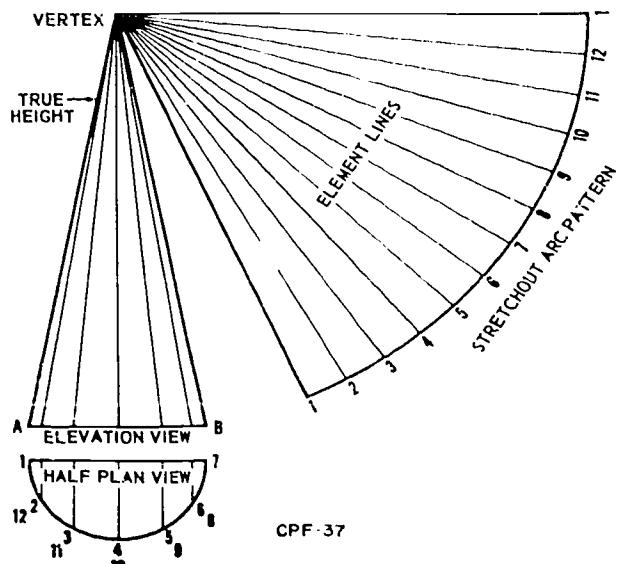

Figure 1-71. Radial line development for a cone.
**Radial Line Layout Method.** The radial line method of layout is used to develop patterns for sheet metal components that are cone or pyramid shaped. However, each cone or pyramid must have a centerline (vertical height) that is perpendicular to the base; in other words, a right cone or a right pyramid. While the characteristics of the radial line method of pattern development differ somewhat from those of parallel line development, you will notice that certain steps, such as drawing the elevation and plan views, are similar. Figures 1-71 and 1-72 will show you these basic similarities. For example, in each illustration the elevation view shows the height of the